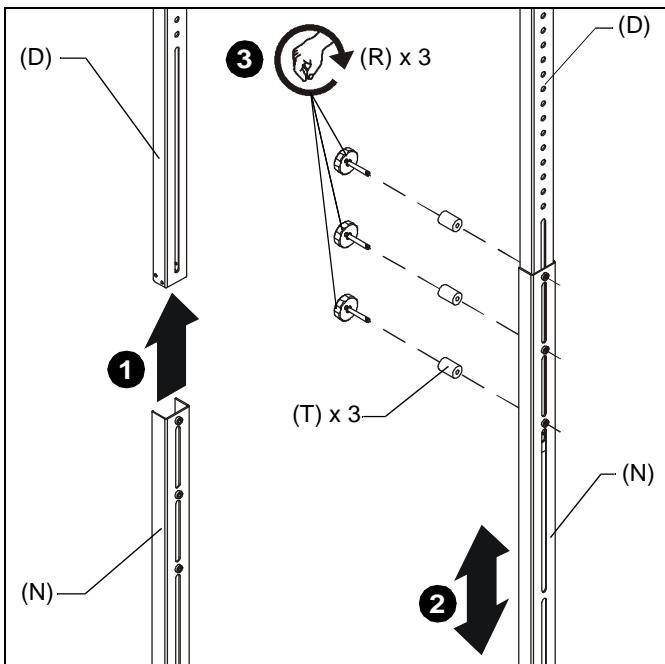

Figure 1
1. Slide adjustable leg (N) up over bottom of upright assembly (D). (See Figure 1)
2. Adjust leg (N) as necessary to set the correct length of entire leg assembly. (See Figure 1)
3. Fasten adjustable leg (N) in place using three knobs (R) and three 0.75x.265x1.125 spacers (T). (See Figure 1)